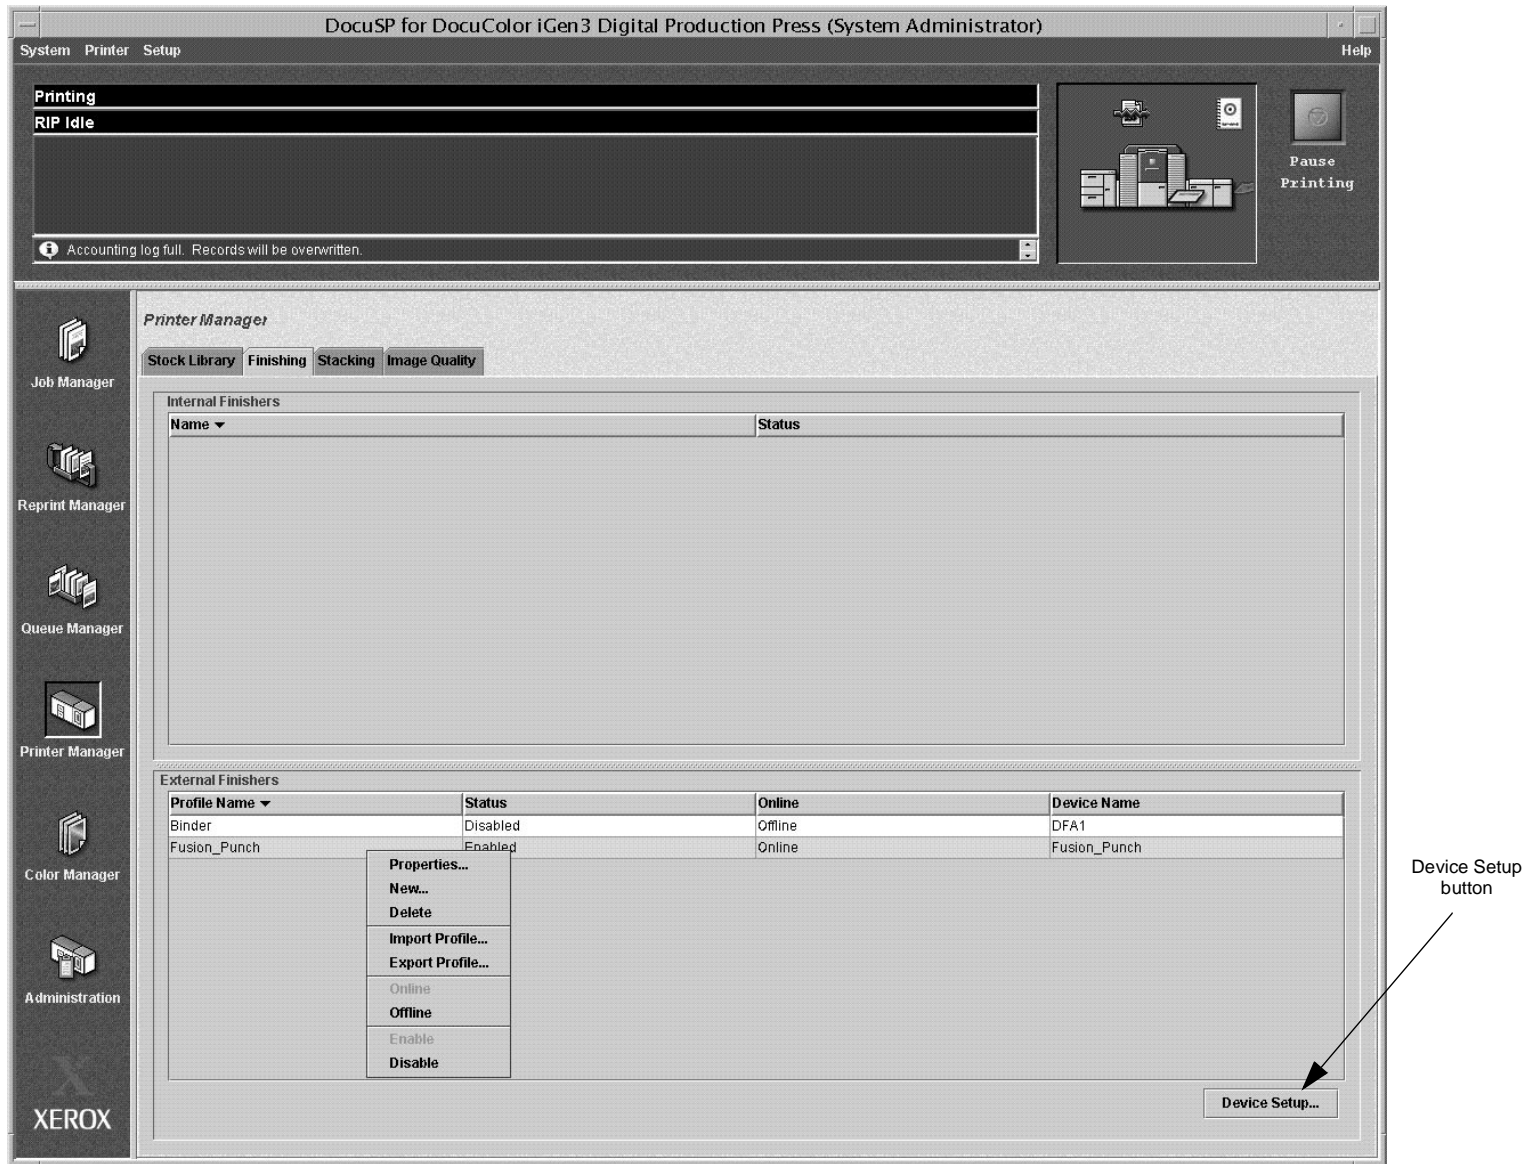

Figure 6-35 The Finishing Tab Screen
The **Finishing Tab Screen** will display, as shown in Figure 6-35.
3. Click the **Device Setup** button at the bottom right corner of this screen, as shown in Figure 6-35.